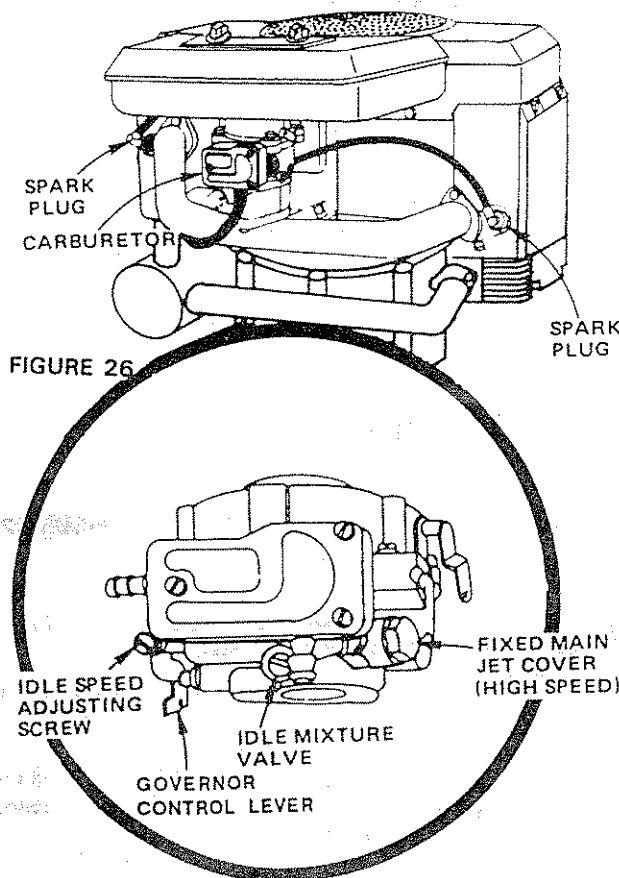

FIGURE 26
- a. Gently turn the idle mixture valve clockwise (↻) Fig. 26 until it just closes and then counterclockwise (↺) 1-1/2 turns. CAUTION: Valve may be damaged if turned in too far.